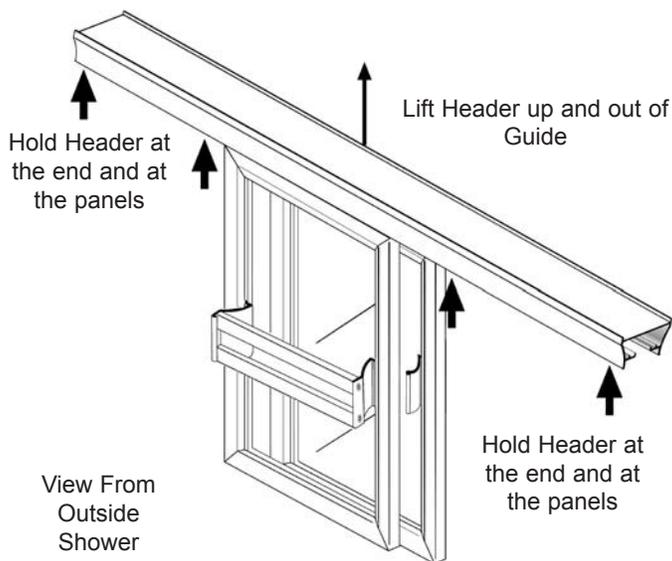

Figure 9
- E. As an alternative to taking out one Door Panels (#4 and #5) at a time, you might try this: With the Header (#1) free from both Wall Jambs (#3), slide the Door Panels (#4 and #5) to the center. Each person holds the Header (#1) with one hand next to the Door Panels (#4 and #5) to keep them from sliding and the other hand at the end of the Header (#1). See Figure 9.